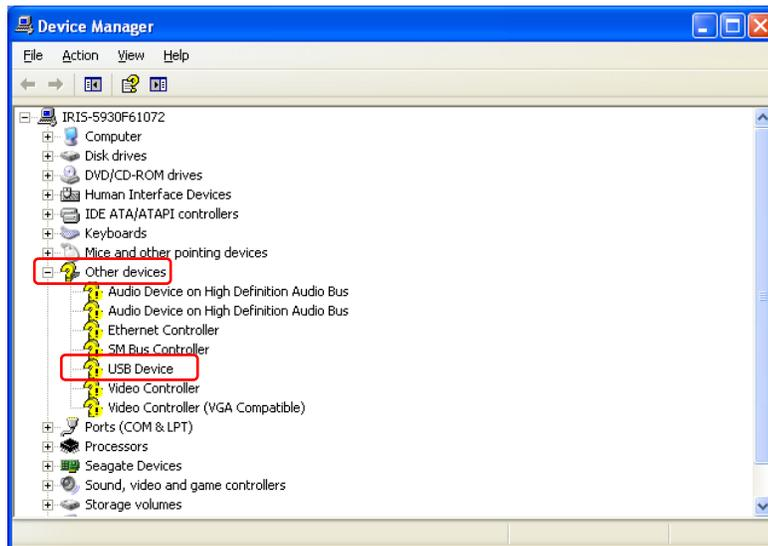

Fig. 2
- C. Expand “Other devices” and locate “USB Device” as shown in Figure 2.
- D. Right click on USB Device (shown in Figure 2) and select “Properties”.